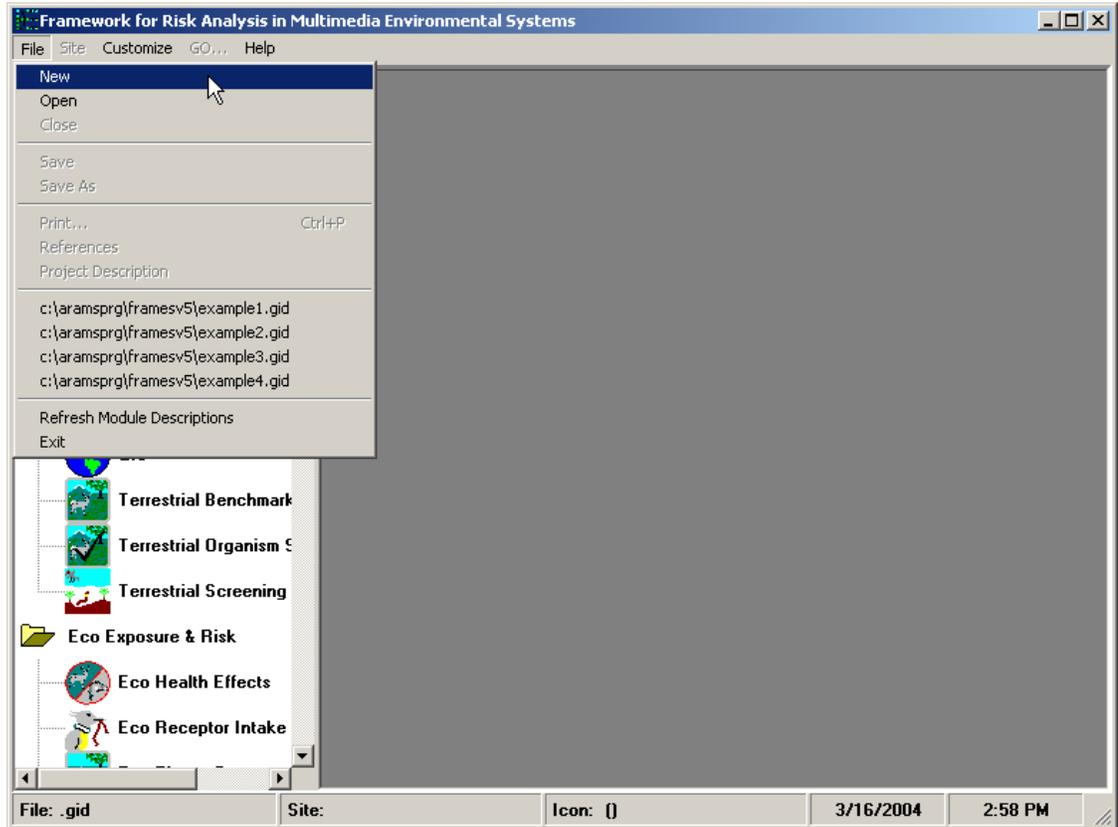

Figure 2. Opening a new file
- While ARAMS/FRAMES is running, click “File” from the FRAMES menu and choose “New.” A window titled “Global Input Data Open New” will appear (see Figure 2). In the “File Name” box enter the project name (e.g., “Ex1”, maximum of eight characters) and click “Open” (see Figure 3). **Do not name the new file “Example1” because it will write over the existing “Example1” file that was distributed with the tutorial.** A window titled “Create New Site” will appear. Next, type the project site name (e.g., “Site 1”) and click “OK” (see Figure 4).